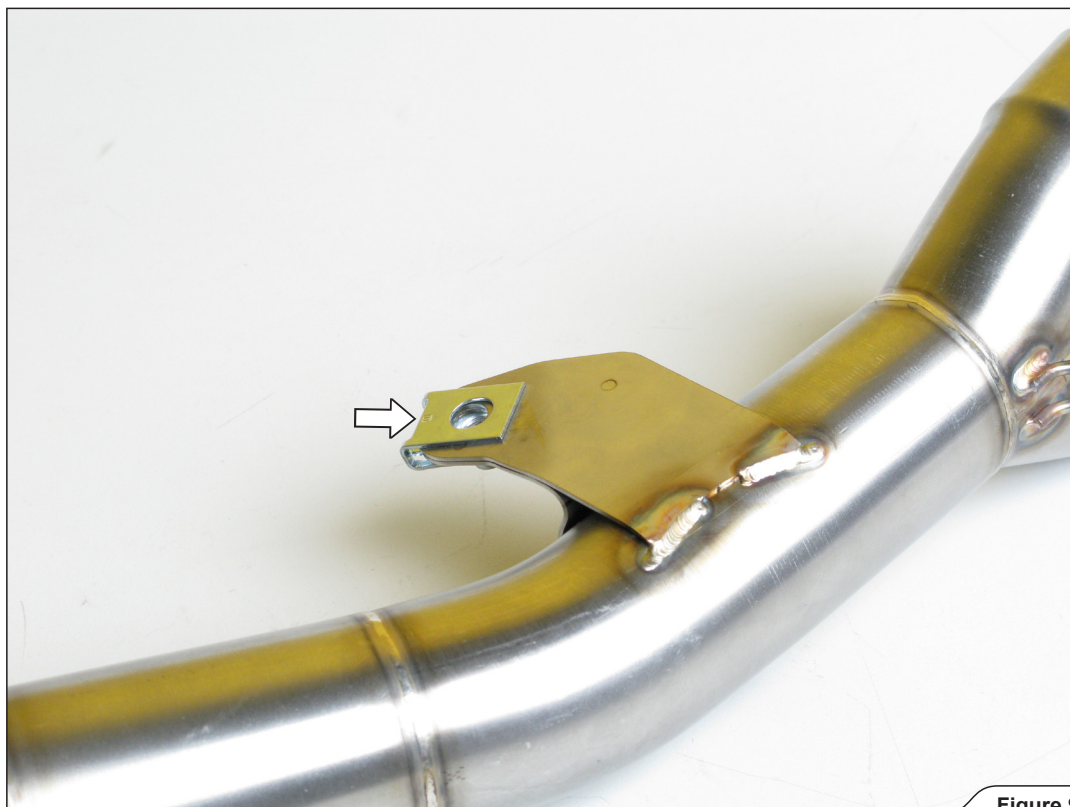

Figure 9
9. Attach the Akrapovič press-on nut onto the link pipe bracket as shown (**Figure 9**).